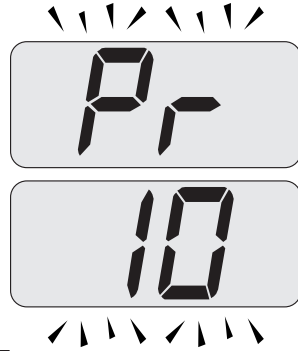

Fig. 7.37
with code **10** are displayed on the LCD display, indicating that "parameter 10" (Fig. 7.37) has been activated.
- Press keys 14 and 15 (Fig. 7.35) at the same time to exit without changing the value (return to the parameters list Fig. 7.37).